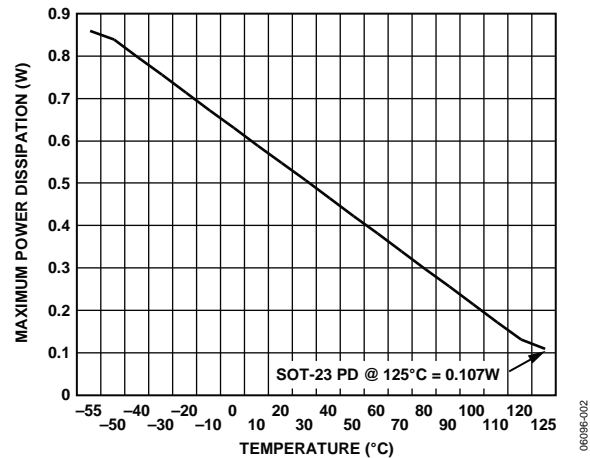

Figure 2. SOT-23 Maximum Power Dissipation vs. Temperature
1 Values relate to package being used on a standard 2-layer PCB. This gives a worst case θJA. Refer to Figure 2 for a plot of maximum power dissipation vs. ambient temperature (TA).